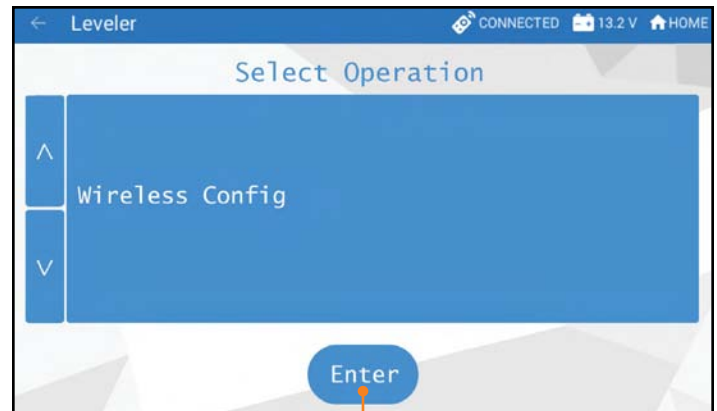

Fig.41
6. Use the "UP" and "DOWN" arrows (**Fig.40B**) to scroll to "WIRELESS CONFIG" (**Fig.41**).